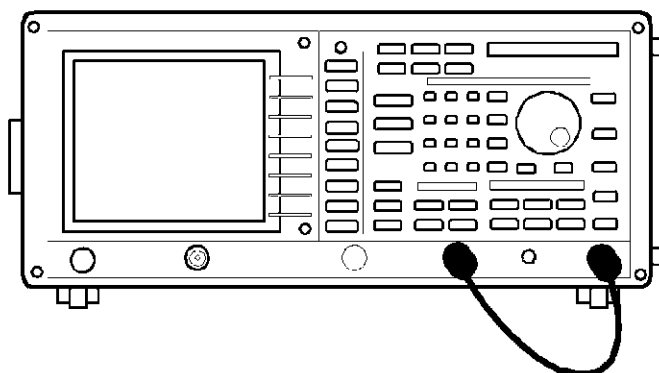

Figure 5-6 Setup of QP Bandwidth Accuracy Test
1. On the R3132 series, connect the BNC cable from CAL OUT connector to the INPUT connector as shown in Figure 5-6.